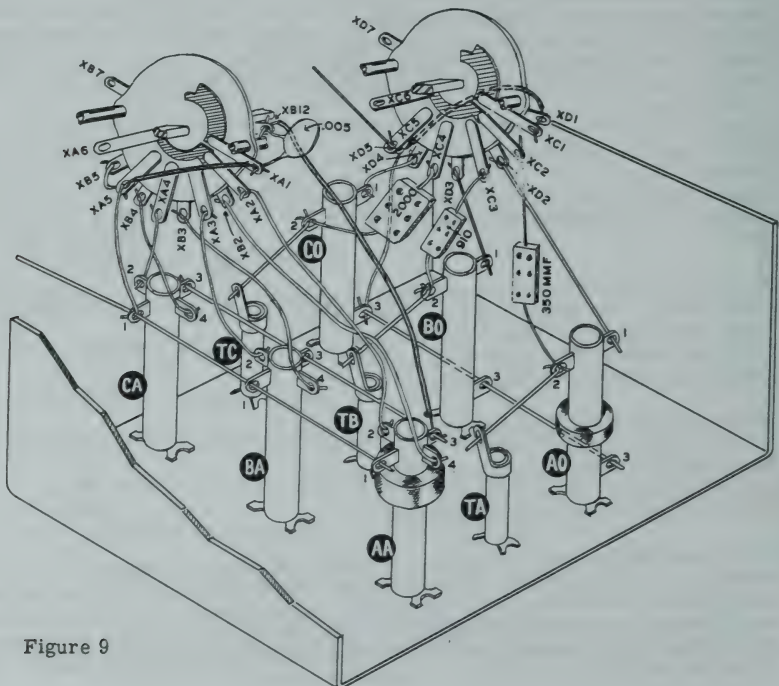

Figure 9
- (✓) Connect a bare wire from TA (S) to AO2 (NS).
- (✓) Connect a bare wire from TB (S) to BO2 (NS).
- (✓) Connect a bare wire from TC (S) to CO2 (NS).
- (✓) Cut one lead of a 350  $\mu$ f mica capacitor (orange-green-brown) to 5/8". Connect to AO2 (S). Leave the other end free.
- (✓) Cut one lead of a 910  $\mu$ f mica capacitor (white-brown-brown) to 5/8". Connect to BO2 (S). Leave the other end free.
- (✓) Cut one lead of a 2000  $\mu$ f mica capacitor (red-black-red) to 5/8". Connect to CO2 (S). Leave the other end free. Use care when connecting the lead to the coil terminal to prevent breakage due to the heavier lead wire used.
- (✓) Mount the bandswitch X as shown. Do not tighten securely as the nut will be removed later when mounting the coil and switch assembly in the receiver. See Figure 9.
NOTE: Contact lugs on the front face of the switch wafer nearest the panel are numbered XA1, XA2 etc. Contact lugs on the rear face of this wafer have XB numbers. Lugs on the rear wafer have XC and XD numbers. See Figure 9 for detailed numbering.